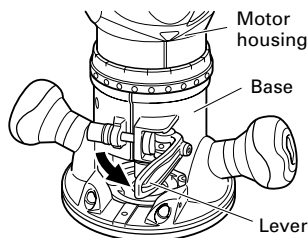

Fig. 1
- (1) Remove the motor housing from base as follows.
- (a) Open the lever. (**Fig. 1**)